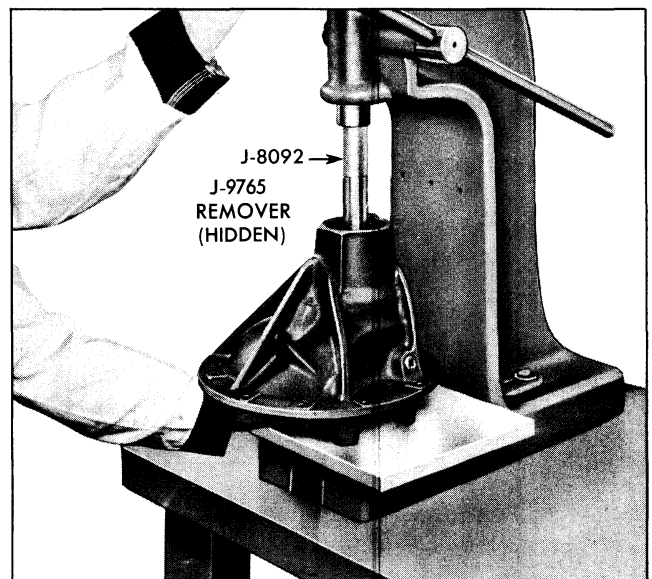

Fig. 4-42 Removing Rear Bearing Outer Race with J-9765 and J-8092
28. If, during visual inspection, it was determined to replace rear pinion bearing, press rear bearing outer race from carrier, using remover J-9765 and drive handle J-8092 (Fig. 4-42).